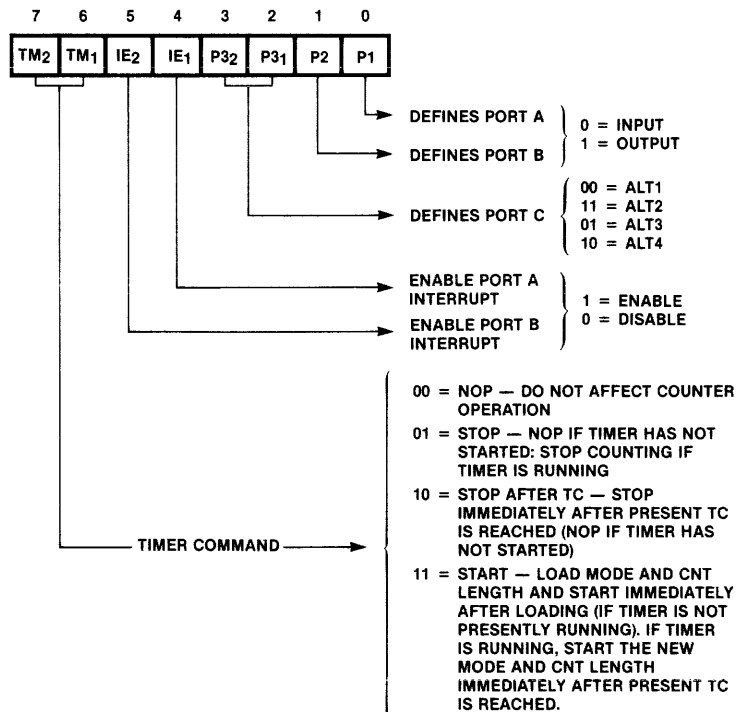

Figure 3-10. Command Register Format
**3-40. COMMAND REGISTER FORMAT.** The Command Register consists of eight 1-bit latches. Bits 0-3 define the mode of Port A, B, and C, bits 4 and 5 enable or disable Port A and B interrupts, and bits 6 and 7 are used for the Timer portion of the 8155. Figure 3-10 shows the Command Register format.
Bits 6-7 of the Command/Status Register are used to start and stop the counter. See Figure 3-10 for a description of the different commands.